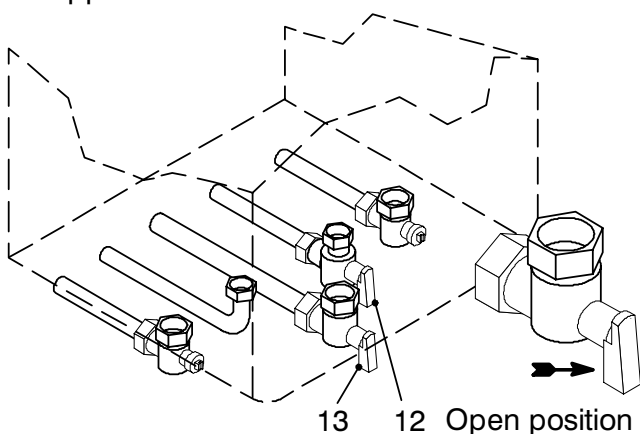

Fig. 7.1
- 2 Open the gas cock 13 (Fig. 7.1) on the appliance and check the gas connector on the appliance for leaks.
- 2 Open the cold water inlet valve 12 (Fig. 7.1).